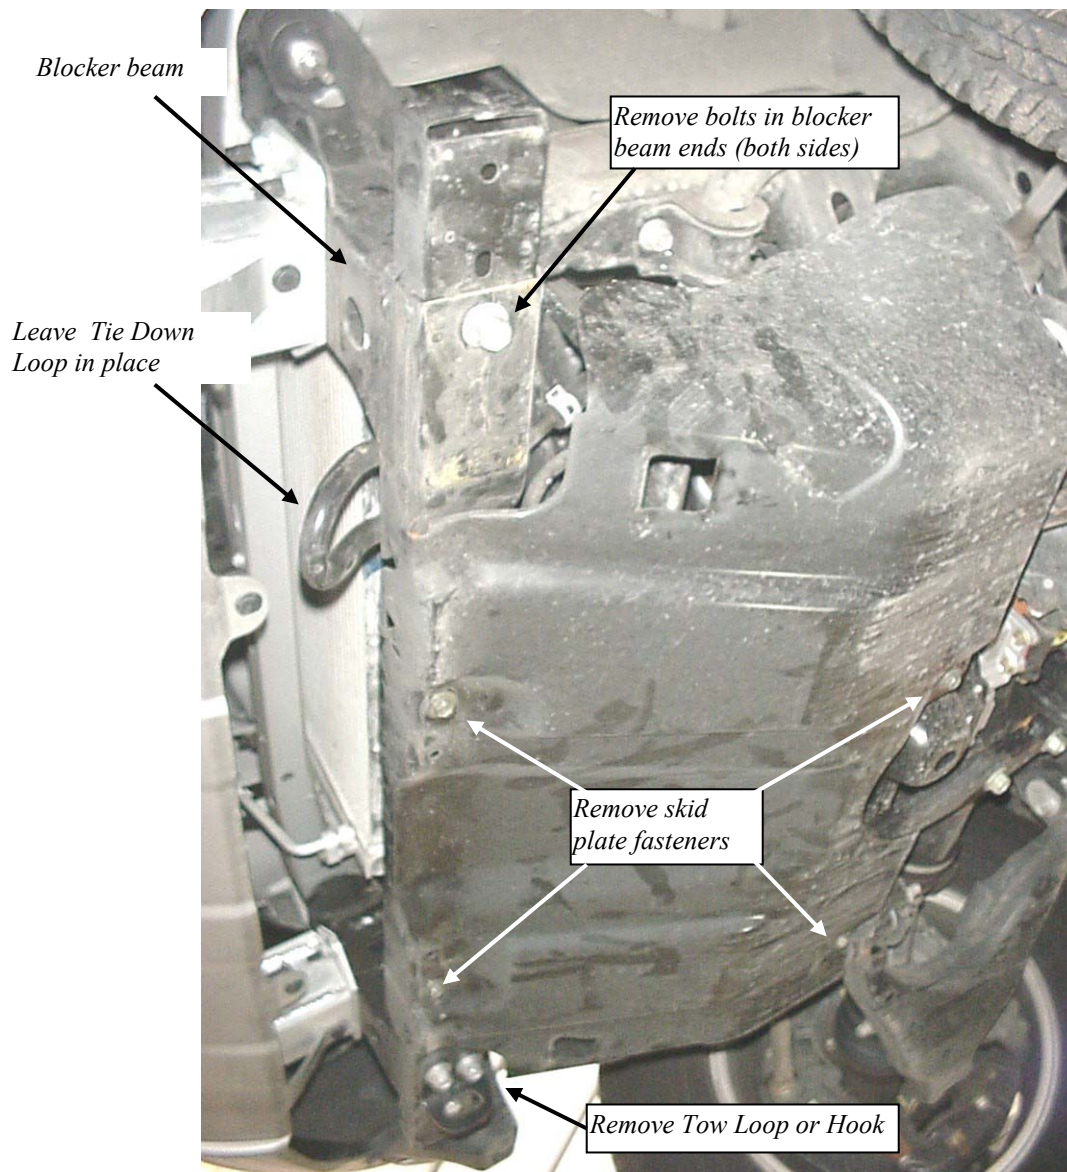

Figure 2
1. Remove the skid plate if so equipped. It will be re-installed later. Unbolt the tow loop or tow hook from the bottom of the frame, passenger side and discard. Remove the bolts securing the blocker beam extensions to each side of the frame. Do not remove the extensions. **Figure 2**